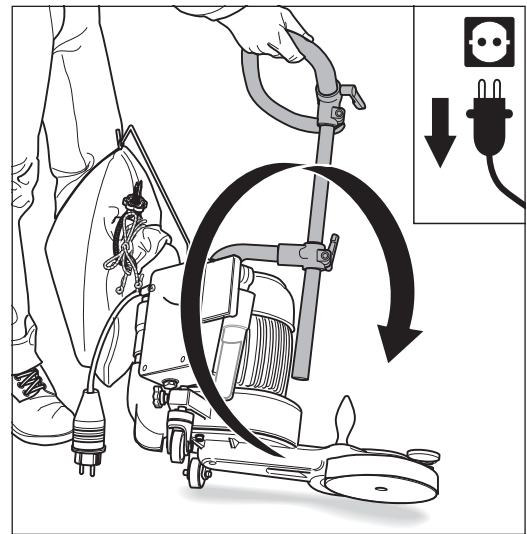
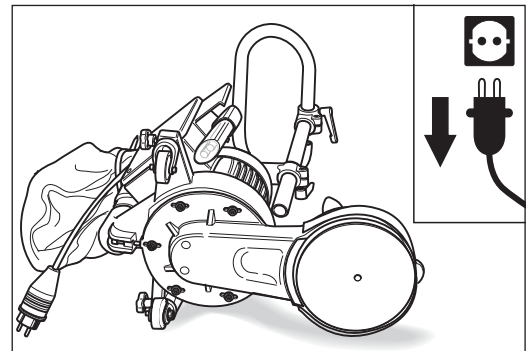

Fig. 63 Tilt the UNICO over to the **left-hand** side and set it down carefully.
Fig. 64 Place the UNICO down on the **left-hand** side only.
- 2 Place the UNICO on its side by grabbing the machine by the handlebar on the right-hand side and then tilt the machine over to the **left-hand** side (fig. 63) and set it down carefully. **Always** set the UNICO down on the **left-hand** side (fig. 64)! This will prevent damage to the floor, and the shape of the fan housing also stops any dust falling back out of the dust bag from getting into the fan housing.